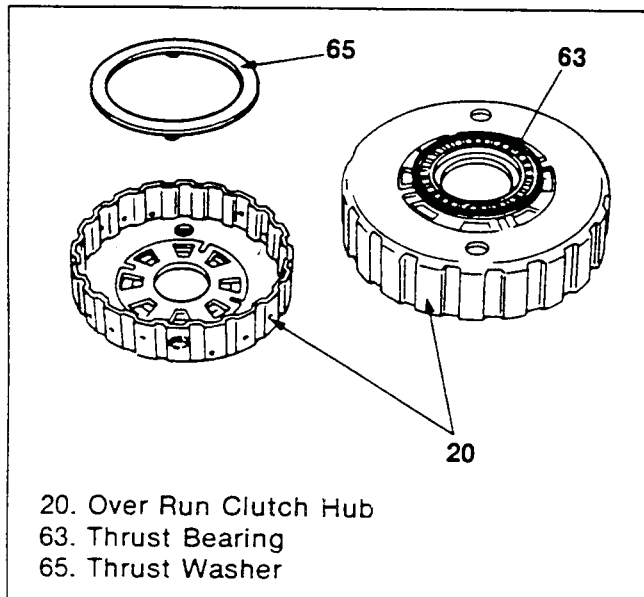

Figure 34. Thrust Washer Removal
4. Remove the thrust bearing and thrust washer from the overrun clutch hub (figures 34 and 35).
7. Inspect (Figure 34)